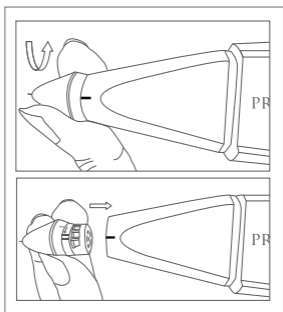

Figure 1
1. When the tester is switched off, turn the probe tip anti-clockwise to remove it, as shown in Figure 1.